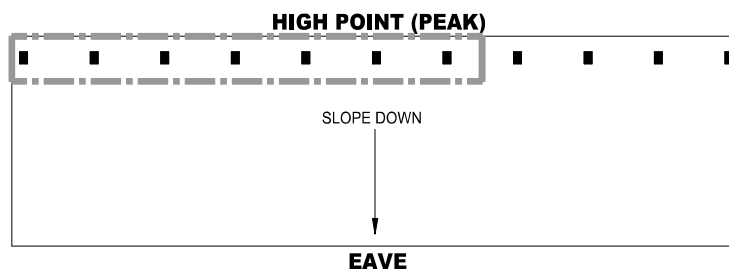

FIGURE 22A
- Calculate the most hydraulically demanding 7 contiguous DS sprinklers. See Figure 22A.